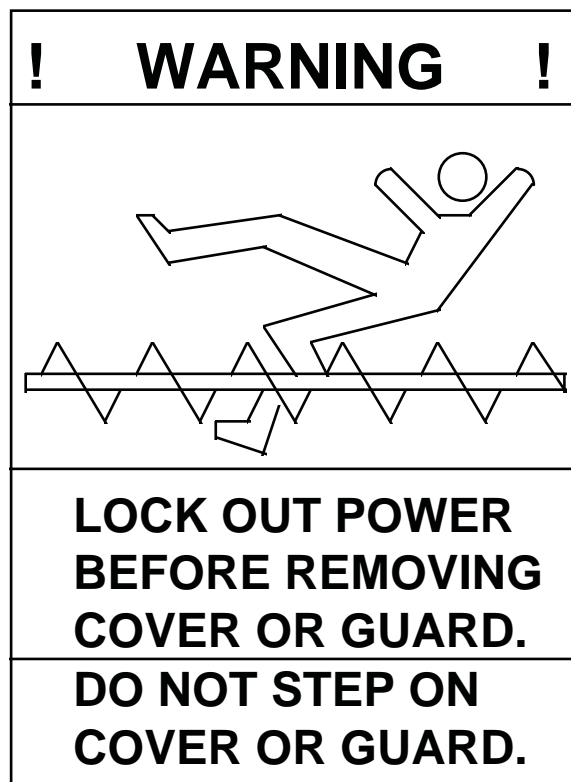

FIGURE 1
AS SHOWN IN THE WARNING LABEL IN FIGURE 1, DO NOT STEP OR WALK ON CONVEYOR COVERS OR GRATING OR POWER TRANSMISSION GUARDS.
1. ALWAYS operate conveyor in accordance with these instructions and those on hazard labels shown in Figures 1 and 6.